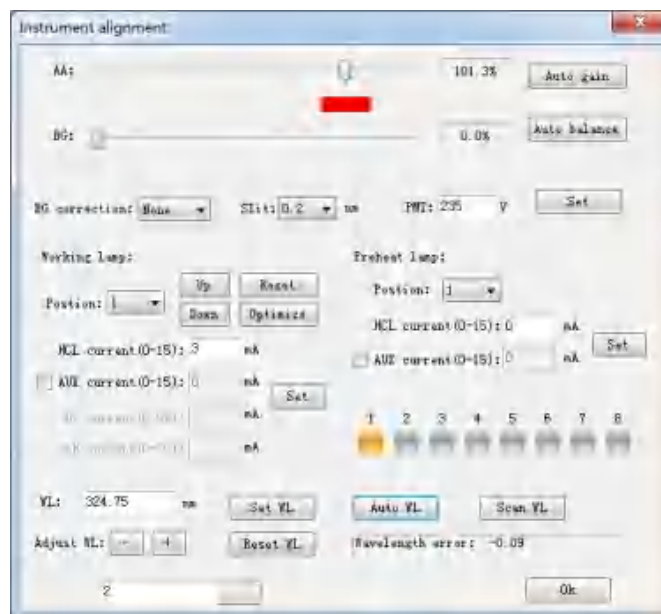

Fig. 3-4 Instrument optimization
- 1) Automatically enter the "Instrument Alignment" window, as shown in Figure 3.4.